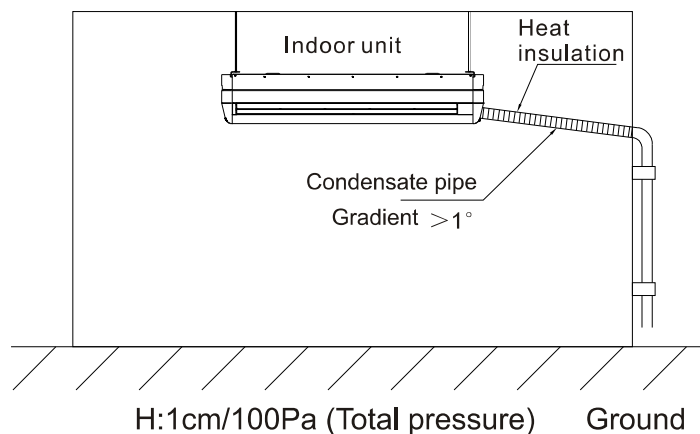

Fig 23
- After installing the condensate pipe, it will do leakage test through pouring some water to check whether there is a leakage at joints and drain is smooth. As for the new room, do the leakage test before laying the ceiling, please refer to Fig 23.